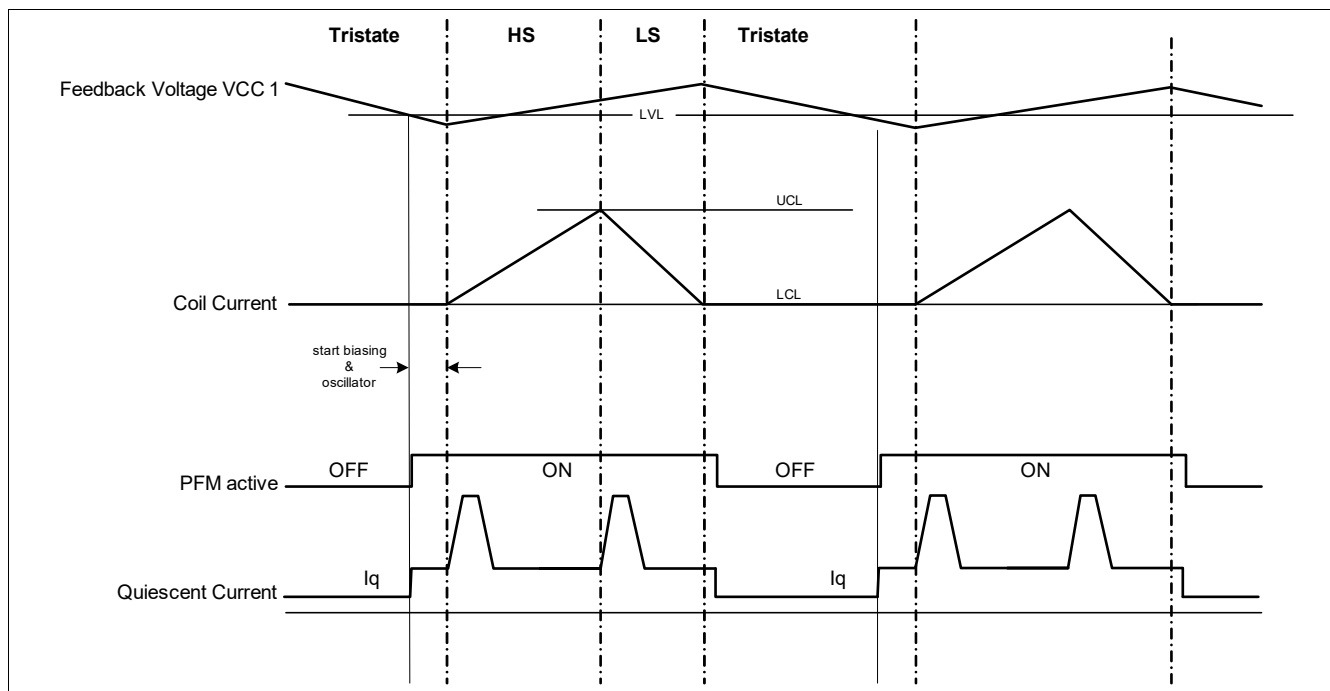

Figure 8 Typical PFM timing diagram
- PFM Mode (Pulse Frequency Modulation):** This mode is activated automatically when the SBC Stop Mode is entered. The PFM Mode is an asynchronous mode. PFM Mode does not have a controller switching frequency. The switching frequency depends on conditions of the Buck regulator such as the following: input supply voltage, output voltage, output current and external components. A typical timing diagram is shown in Figure 8. The Buck converter in PFM Mode has a tolerance of $\pm 4\%$. The transition from PFM mode to PWM mode is described in Chapter 6.4.2.